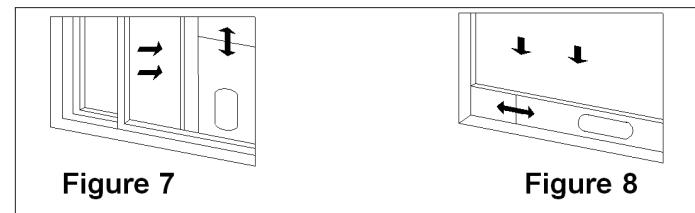

Figure 7
- Open the window and mount the window sealing board assembly onto the window, either vertically or horizontally (as shown in Figure 7 and 8).